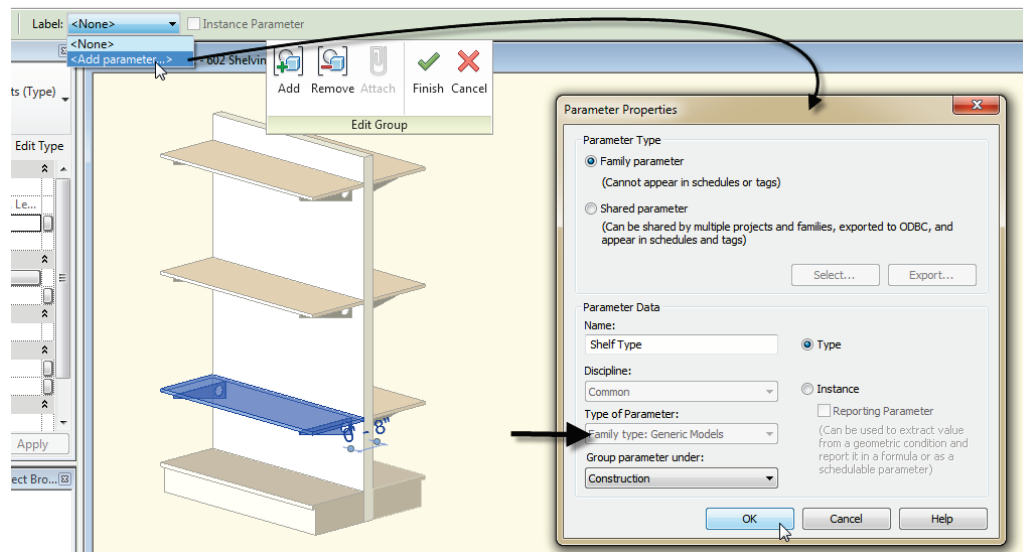

Figure 23—Create a new <Family Types> parameter
5. Call it **Shelf Type**, make it a **Type** parameter and group it under **Construction** (see Figure 23). **If an error appears about constraints, click Remove Constraints.**